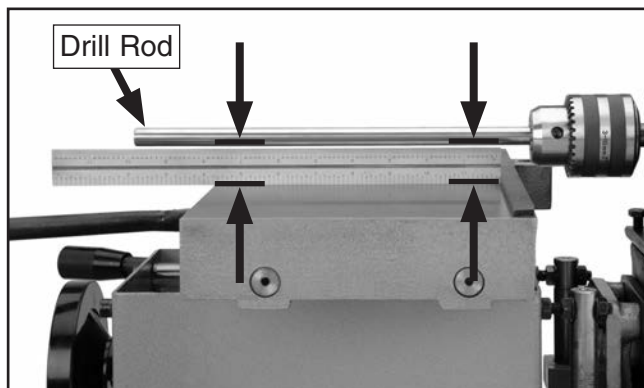

Figure 32. Checking table-motor parallelism.
2. Raise the table just under the drill rod (**Figure 32**), and use a metal straightedge as a visual reference for checking the front-to-back distance between the drill rod and the table.